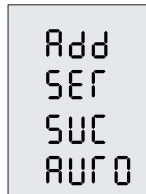

Figure 5-8
Step6: After pairing, the LCD panel will display as Figure 5-8 for 5s, then returning to home page automatically.